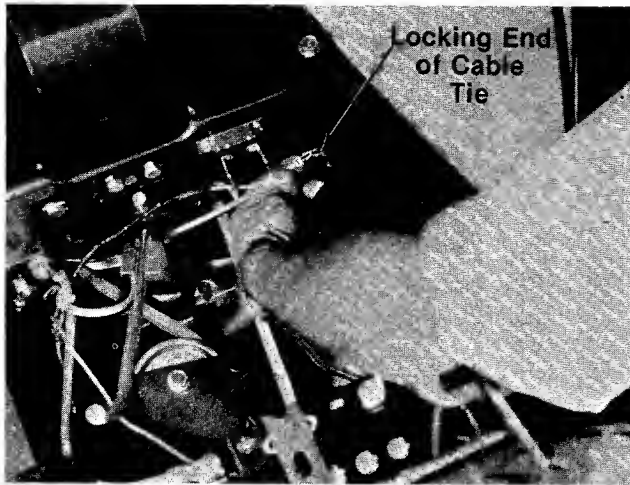

FIGURE 12.
9. Attach the battery drain tube to the manifold of the battery, on the left hand side. Push the locking end of cable tie (H) through the hole in the left frame as shown in figure 12. Route the battery drain tube back to the cable tie. Place end of cable tie through the slot so a loop is formed around the drain tube to secure it. Tighten cable tie and cut off excess end.